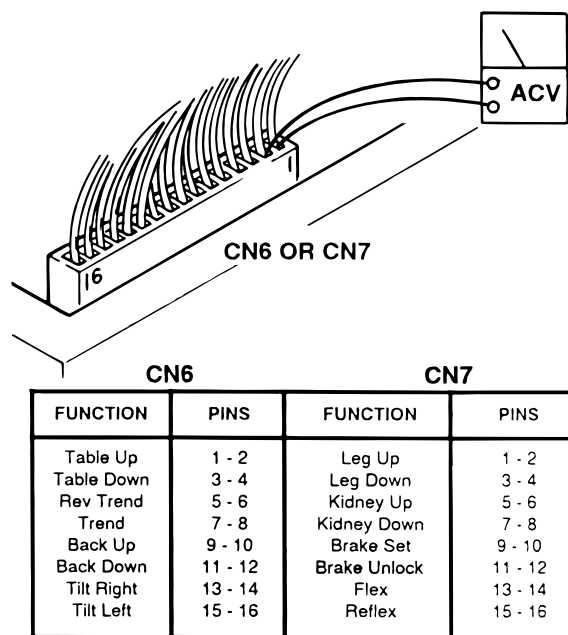

Figure 5-7. Relay Box Output Connectors CN6 and CN7
3. Activate each of the Pendant Control buttons and using an AC voltmeter capable of measuring 120VAC, measure the voltage between the appropriate connector pins located in connector CN6 or CN7. See figure 5-7. Polarity of meter test leads is not important. Meter should read 120VAC.